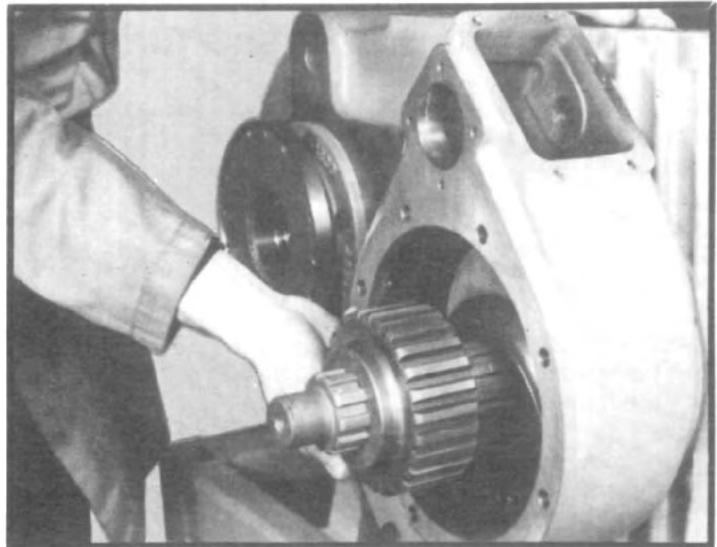

Fig. 14
13. Withdraw lockout gear, (See fig. 14), shift fork and clutch collar. (See fig. 15.)